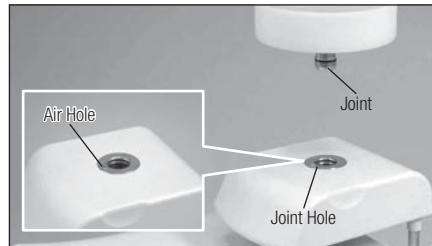

Fig. 39
- 3) Install the cap on the Bottle, check the Joint Hole and surrounding area and clean as needed. After cleaning install the Bottle Joint into the Joint Hole and press down until it click into place. (Fig. 39)